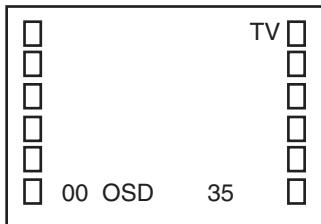

Fig. 1-1
1. In the condition of NO indication on the screen. Press the VOL. DOWN button on the set and the Channel button (9) on the remote control for more than 1 second to appear the adjustment mode on the screen as shown in **Fig. 1-1**.
2. Activate the adjustment mode display of **Fig. 1-1** and press the channel button (01) on the remote control to select "CUT OFF".
4. Activate the adjustment mode display of **Fig. 1-1** and press the channel button (12) on the remote control to select "R. BIAS".
3. Activate the adjustment mode display of **Fig. 1-1** and press the channel button (03) on the remote control to select "H.PHASE".
3. Activate the adjustment mode display of **Fig. 1-1** and press the channel button **(07)** on the remote control to select "V. SIZE".
3. Activate the adjustment mode display of **Fig. 1-1** and press the channel button **(08)** on the remote control to select "V. LIN".
3. Activate the adjustment mode display of **Fig. 1-1** and press the channel button **(33)** on the remote control to select "LEVEL".
1. Activate the adjustment mode display of **Fig. 1-1**.
3. Activate the adjustment mode display of **Fig. 1-1** and press the channel button **(34)** on the remote control to select "SEP1".
4. Activate the adjustment mode display of **Fig. 1-1** and press the channel button **(34)** on the remote control to select "SEP 1".
8. Activate the adjustment mode display of **Fig. 1-1** and press the channel button **(35)** on the remote control to select "SEP 2".
3. Activate the adjustment mode display of **Fig. 1-1** and press the channel button **(16)** on the remote control to select "BRI. CENT".